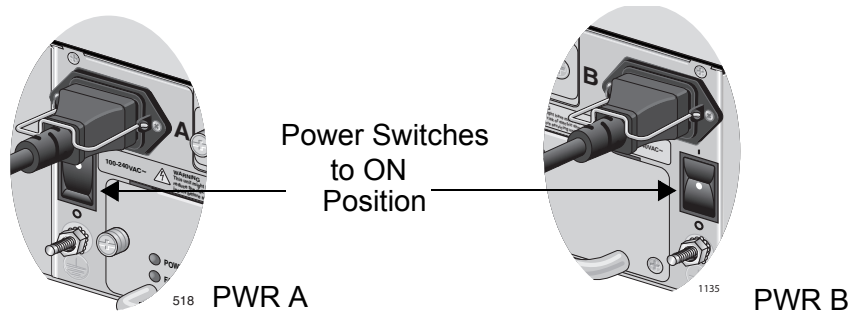

Figure 40. ON/OFF Power Switch in ON Position
6. Turn the ON/OFF power switch of the installed power supply module to the ON position, as shown in Figure 40.